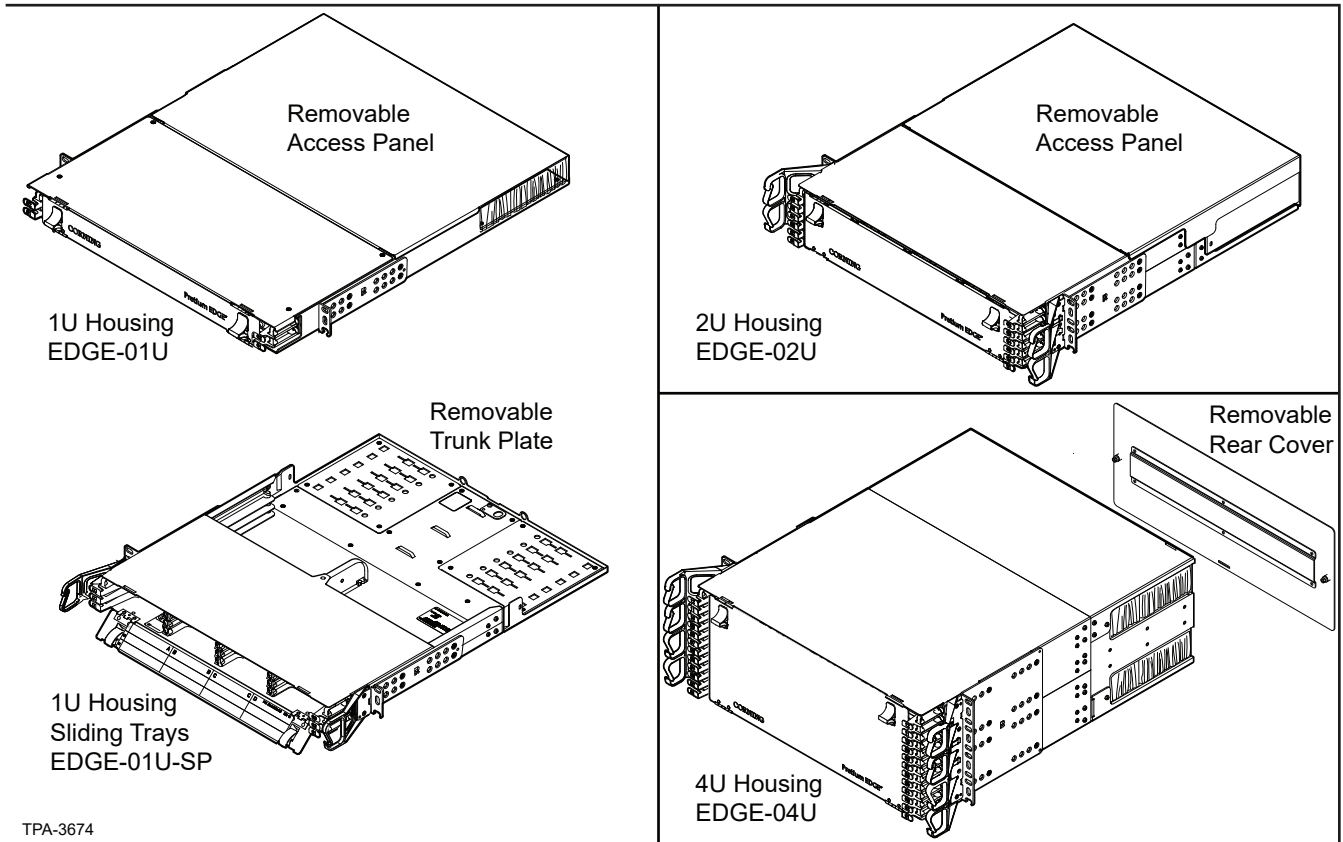

Figure 1 — EDGE Housings
This document describes installation of the EDGE™ 1U, 1U-SP, 2U, and 4U Housing Solutions (Figure 1). Except where installation of another housing is unique, only the 4U housing is illustrated.
Step 1: Remove the access or rear cover from the housing to reach the backplate (Figure 1).